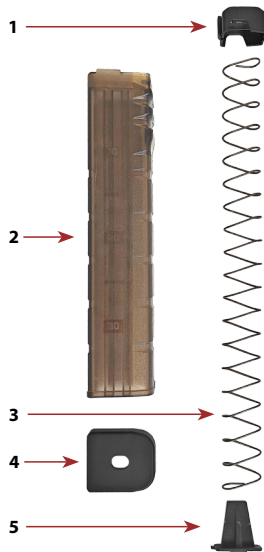

Figure 29-1 Magazine parts
- Insert magazine follower (fig. 29-1/1), magazine spring (fig. 29-1/3) and magazine plate (fig. 29-1/5) into the magazine body (fig. 29-1/2).
- Using the finger, push magazine base plate (fig. 29-1/5) inwards and slide magazine bottom (fig. 29-1/4) over until it reaches its end position. Magazine base plate tabs must be latched with magazine bottom.